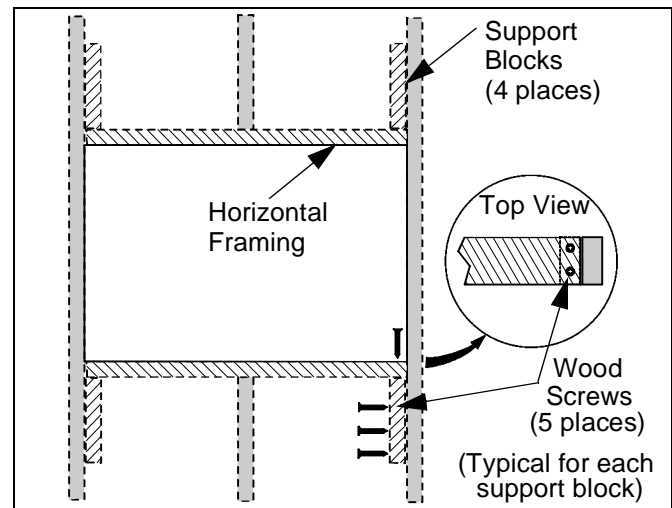

Figure 3: Frame Housing
1. Remove exposed portion of center wood stud flush with upper and lower drywall edges (See Figure 3).
3. Attach each support block to the corresponding stud with three #10 x 2-1/2" countersunk wood screws. Ensure that screws are far enough from end of block to prevent interference with framing screws installed in next step (See Figure 3).
4. If necessary, cut rectangular hole in horizontal framing to accommodate electrical box. Do NOT eliminate bolts (100) to accommodate electrical installation. All 12 bolts (100) must be used to secure housing (10) to wall structure.
- Attach horizontal framing to each support block with two #10 x 2-1/2" countersunk wood screws (See Figure 3).